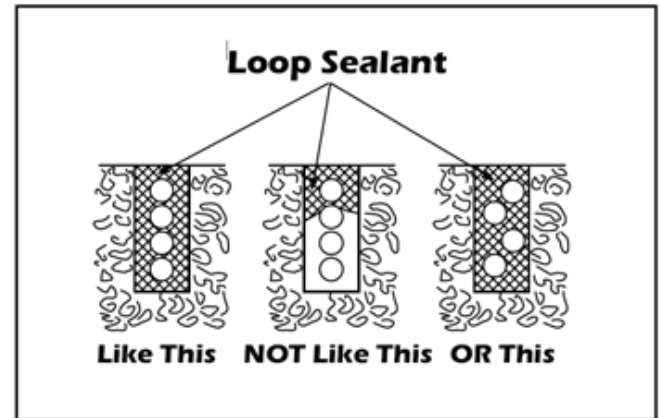

Figure 64. Loop Sealant
9. This guide is written from a design perspective, but installation workmanship practices are equally important to insure proper operation and long loop life. The best way to insure a quality installation is to employ a professional installer experienced with detector loops. A few important practices are: See Figure 64.